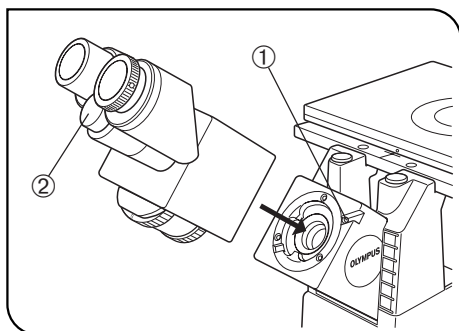

Fig. 97
7 Attaching the Observation Tube (Figs. 97 to 100)
U-BI90CT, U-BI90 or U-TBI90 Binocular Tube (U-MO Monocular Tube) (Figs. 97 & 98)
1. Using the Allen screwdriver, loosen the observation tube clamping screw ① on the observation tube mount. (Fig. 97)
2. Attach the circular dovetail mount of the observation tube into the observation tube mount, placing the observation tube so that the interpupillary distance scale numbers ② are seen right side up. Then tighten the clamping screw to clamp the observation tube.